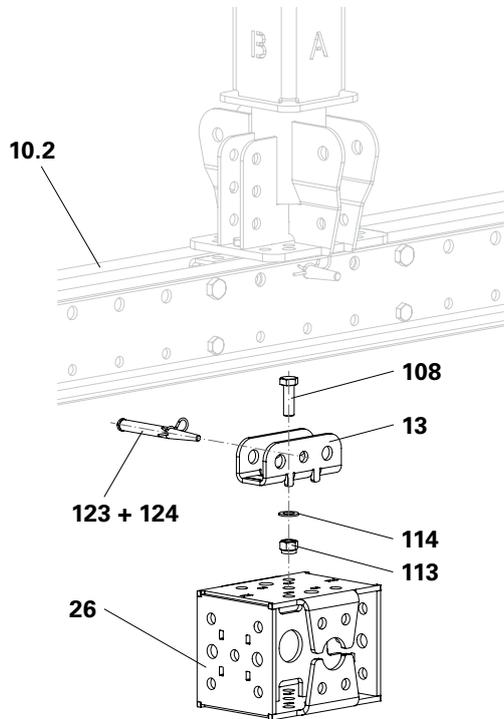

Fig. B3.20
- With the Crane Rail A75, the Support Wedge Box is mounted horizontally. (Fig. B3.20)